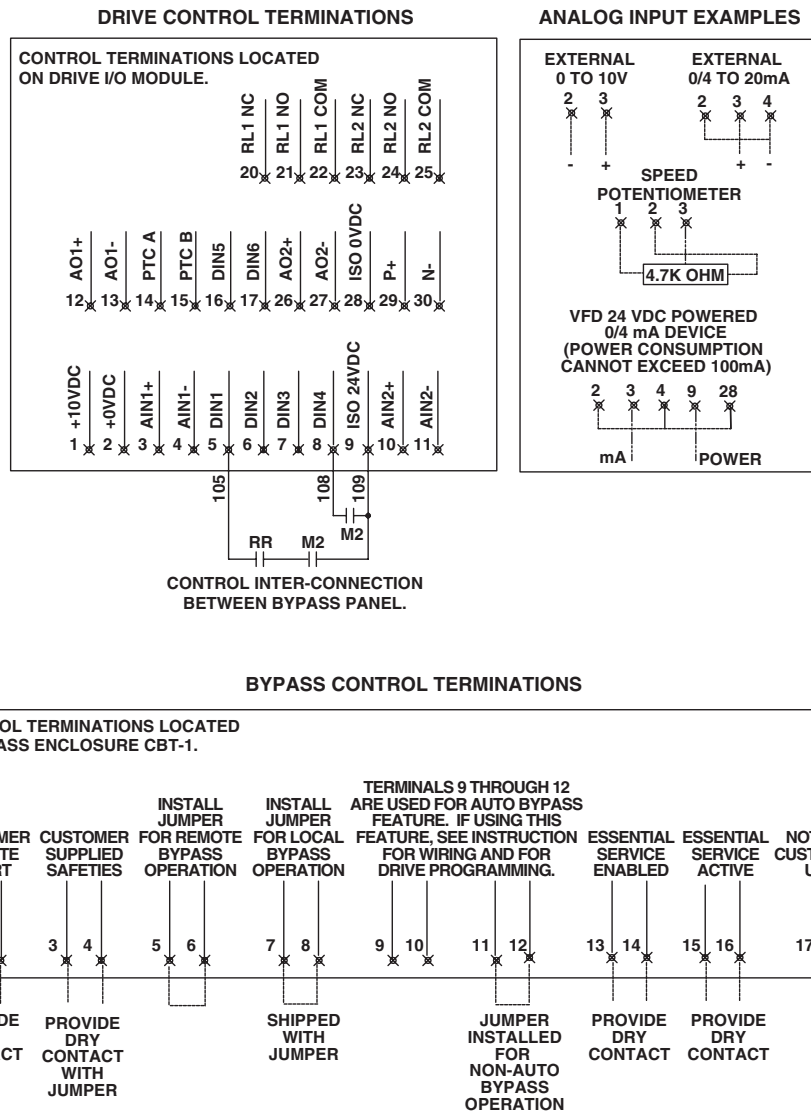
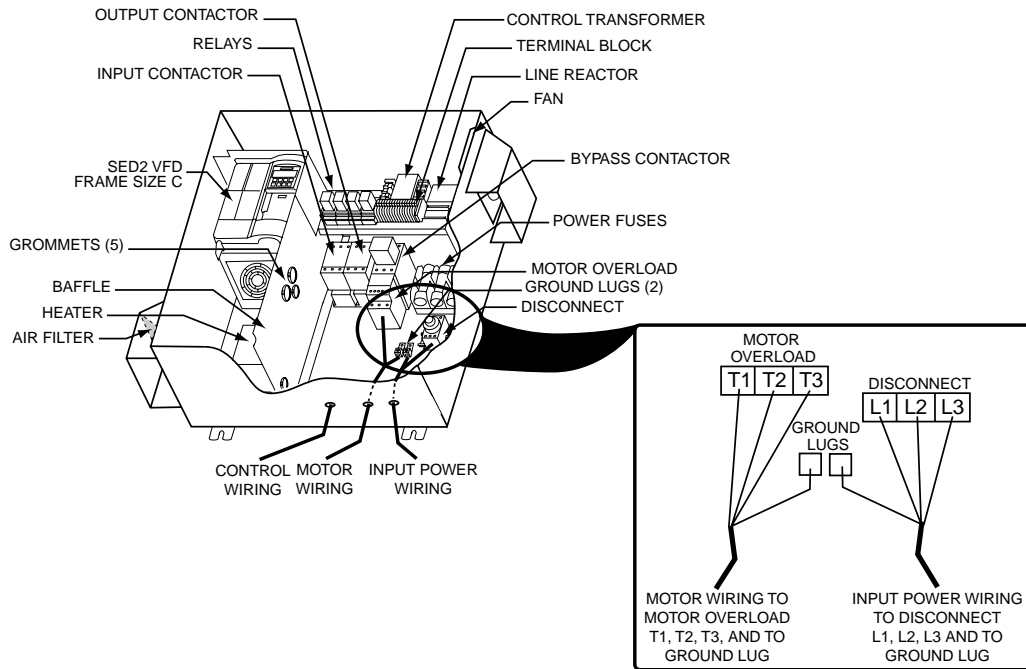

Figure 6. NEMA Type 3R Bypass Control Terminals.
Figure 8. Routing of Power and Control Wiring for Enclosure Size ABC.
2. Route shielded, twisted pair, 24-gauge minimum cable for *control wiring* in separate conduit into enclosure (Figures 8 through 10). Connect control wiring per job drawings and Figure 6.
3. If applicable, route *communications wiring (P1)* in separate conduit into enclosure (Figures 8 through 10). Continue to route communications wiring to VFD and terminate per *SED2 VFD Startup, Operation, and Maintenance Manual*, (125-3201).
4. Route *motor wiring* in separate conduit into enclosure (Figures 8 through 10). Connect motor wiring to motor overload and ground lug. See Tables 2 through 5 for wire sizes and tightening torques.
5. Route *input power wiring* in conduit into enclosure (Figures 8 through 10). Connect input power wiring to disconnect switch and ground lug or to circuit breaker and ground lug. See Tables 2 through 5 for wire sizes and tightening torques.